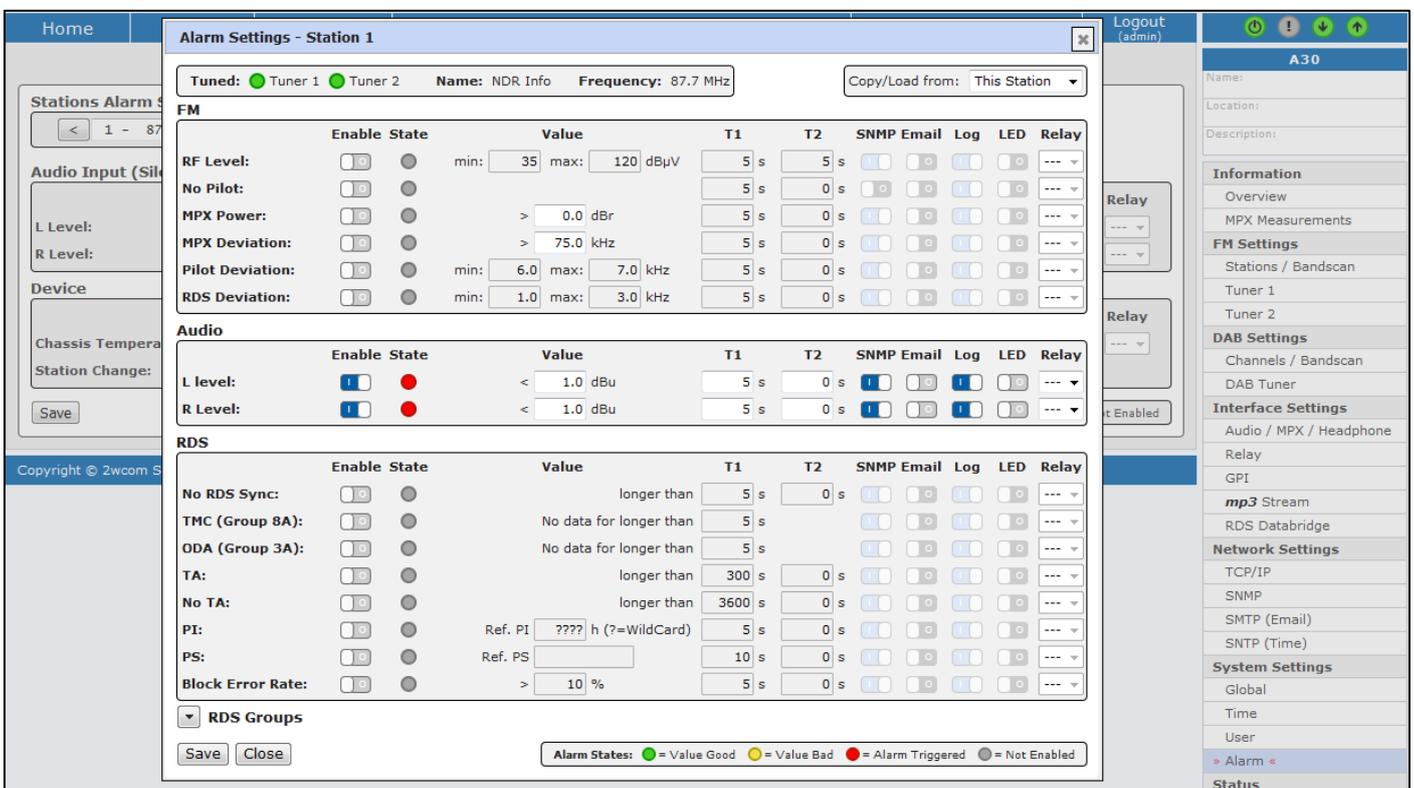

Fig. 26: Alarm settings – monitoring of the internal audio signal
⇒ The "Alarm Settings – Station #" window will appear (see Fig. 26).
3. Click the "ALARM SETTINGS" button to open the "Alarm Settings" page for the selected Station (see Fig. 26).
6. Enable each tuner monitoring function separately in the corresponding checkbox "Enabled", if this parameter should be monitored (see Fig. 26).
3. Click the "Alarm Settings" button to open the "Alarm Settings" page for the selected Station (see Fig. 26).